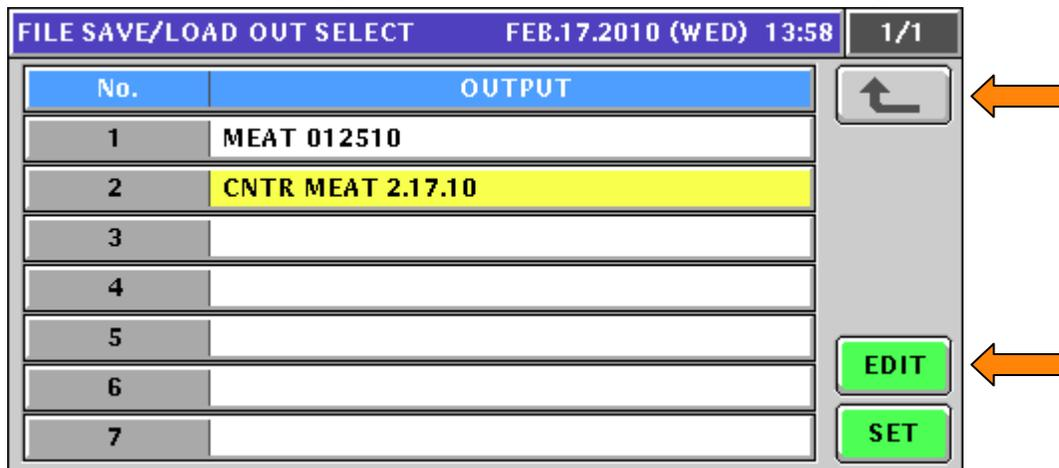

Figure 6.2. Create Output File
10. Press the **EDIT** button to name the file. See Figure 6.2.
12. Press **RETURN ARROW** (top right) to exit and save the file name. See Figure 6.2.